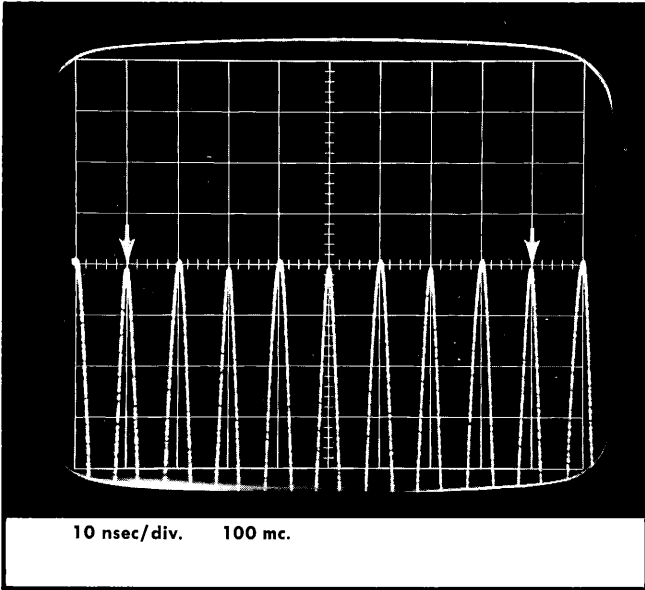
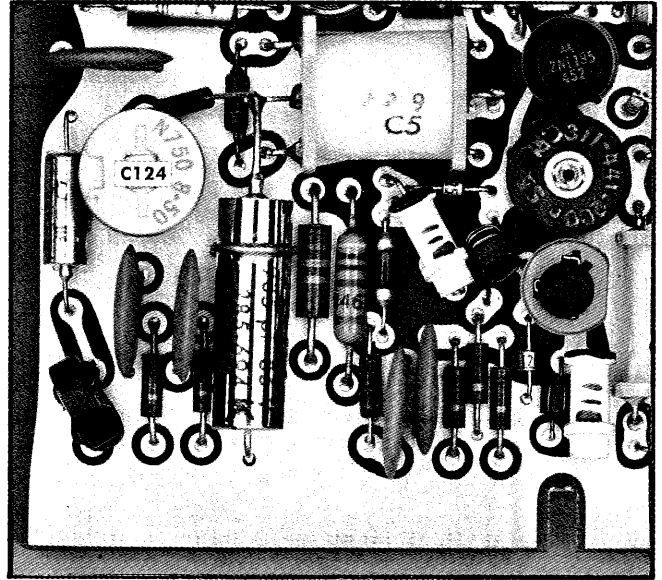

Fig. 5-25. Display when adjusting C124 in Step 18 b. Arrows indicate alignment points. (Doubler tuning adjusted so positive peaks are nearly equal.)
Fig. 5-26. Location of C124 on Timing card.
18. Adjust FAST RAMP Capacitor, C124 ❶
a. Obtain a stable triggered display of the 100 mc sine-waves similar to Fig. 5-25. It may be necessary to adjust the doubler tuning slug to obtain nearly equal amplitude peaks. Use the Type 3T4 DELAY control to position the peaks to coincide with vertical graticule lines. Keep the DELAY control between 9.00 and 10.00
b. Adjust C124 (Fig. 5-26) with a non-metallic tool until the 100 mc sinewave peaks fall directly behind the first and ninth graticule lines (marked in Fig. 5-25).